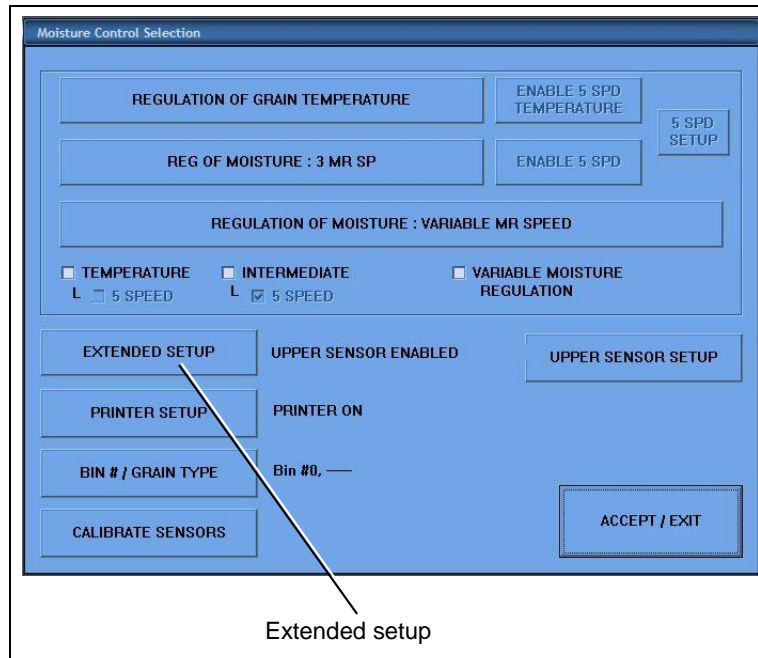

Figure 3D Moisture Control Selection Screen Extended Setup Button
4. On the Moisture Control Selection screen, touch the EXTENDED SETUP button. (See Figure 3D.)